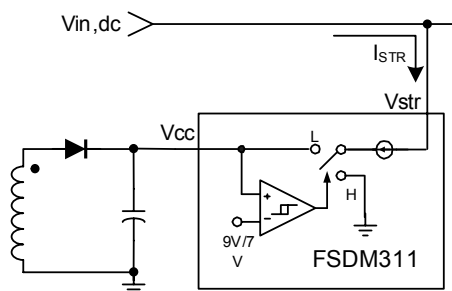

Figure 10. Internal Startup Circuit
1. Startup: At startup, the internal high-voltage current source supplies the internal bias and charges the external Vcc capacitor as shown in Figure 10. In the case of the FSQ211, when Vcc reaches 9V, the device starts switching and the internal high-voltage current source stops charging the capacitor. The device is in normal operation provided that Vcc does not drop below 7V. After startup, the bias is supplied from the auxiliary transformer winding.